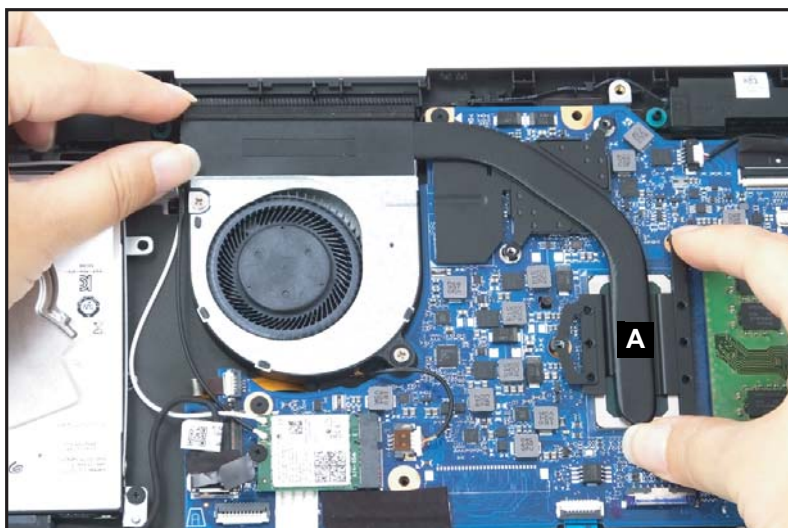

Figure 1-110. Replacing the Heatsink
3. Place the heatsink (A) on the mainboard (Figure 1-110).